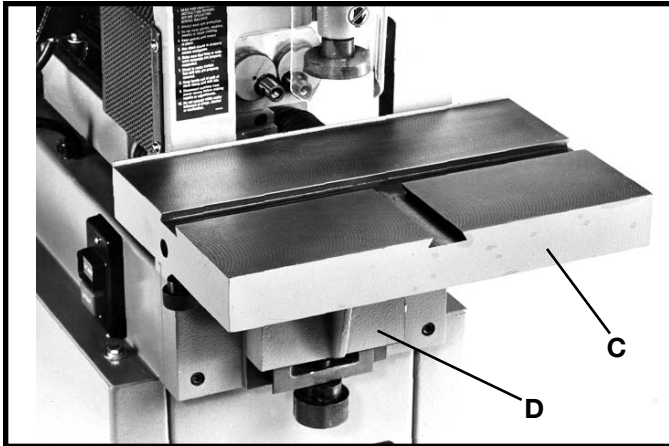
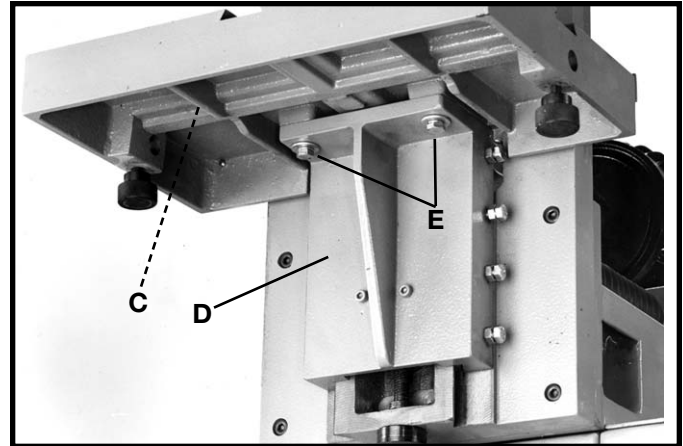

Fig. 7
Fig. 8
2. Place table (C) Fig. 7, onto ledge (D) Fig. 8, of machine. Align two holes in machine ledge (D) Fig. 8, with two threaded holes in the underside of table (C) and fasten as shown, with 2 one inch-long screws, lockwashers and flat washers (E) Fig. 8.